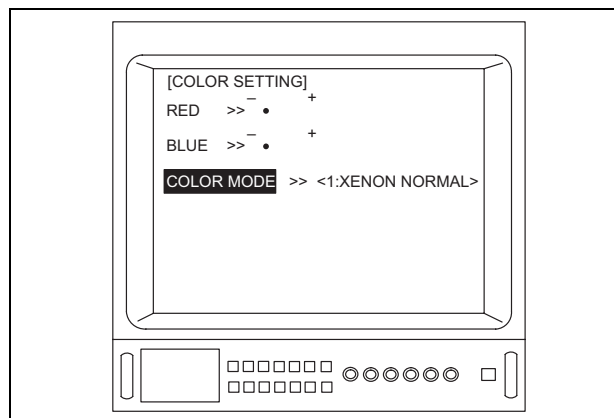

Figure 5.27
7. Depress the menu switch “◀” or the “Enter” key on the keyboard to adjust the color mode (see Figure 5.27).